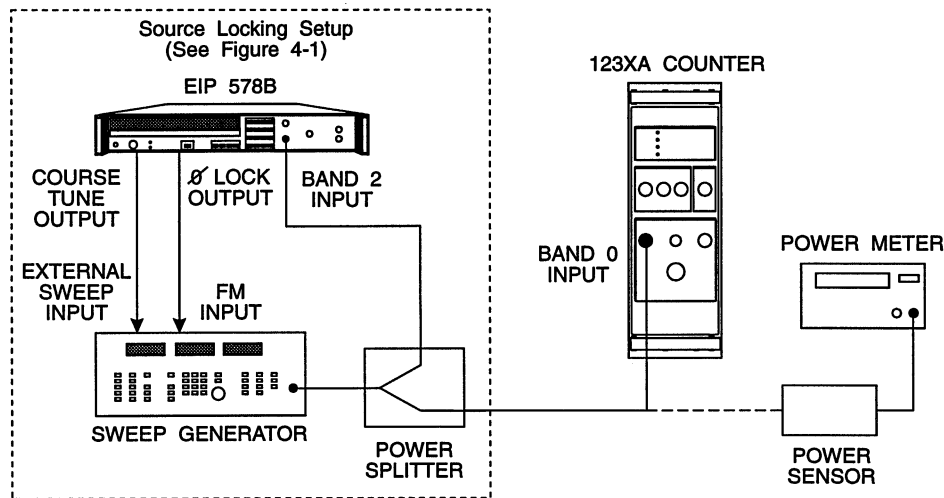

Figure 4-3. Band 0 Test Setup (10 MHz to 250 MHz).
1. Connect equipment as shown in Figure 4-3.